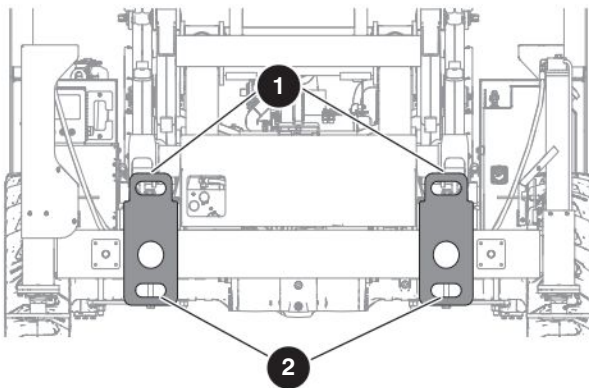
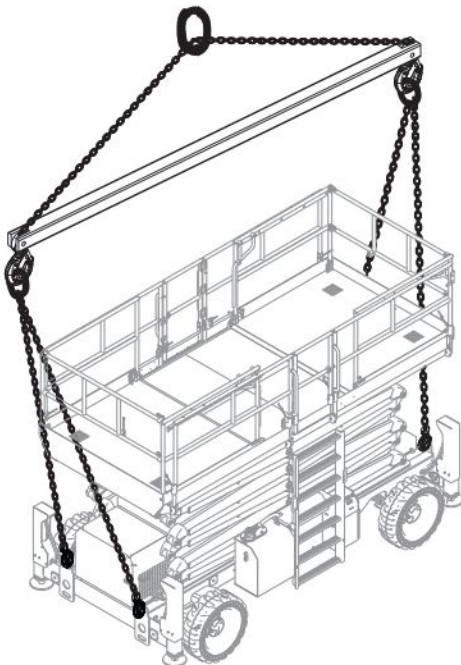

Figure 09 Lift and tie-down points
Figure 10 Appropriate method to hoist
- Attach the rigging to all **four lift points** ❶. Refer to Figure 09 and Figure 10.
When you transport the MEWP, it must be attached to a truck or trailer deck. Use the available tie-down points **②** to attach the MEWP. Refer to Figure 09 If you do not obey, there is a risk of death or serious injury.
- Tie-down the MEWP to the transport vehicle using the four tie-down points **②**. Refer to Figure 09.